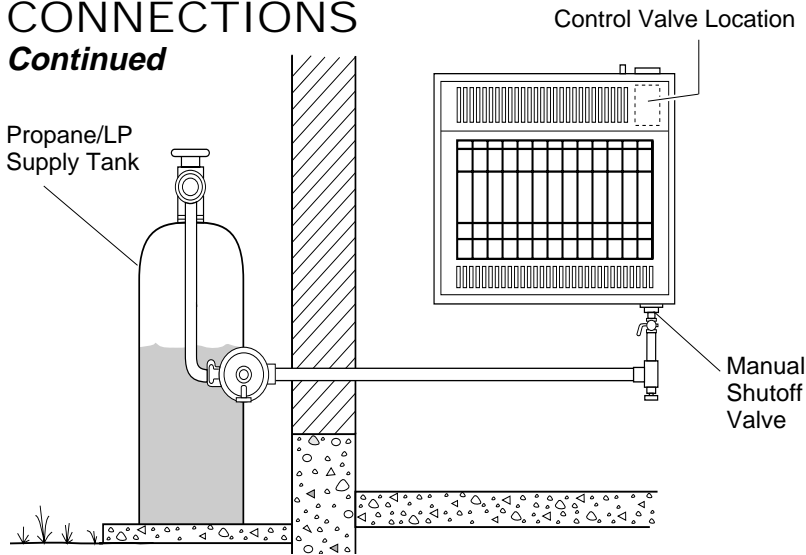

Figure 15 - Checking Gas Joints
3. Check all joints from propane/LP supply tank to manual shutoff valve (see Figure 15, page 10). Apply mixture of liquid soap and water to gas joints. Bubbles forming show a leak.
4. Check all joints from manual shutoff valve to control valve (see Figure 15, page 10). Apply mixture of liquid soap and water to gas joints. Bubbles forming show a leak.